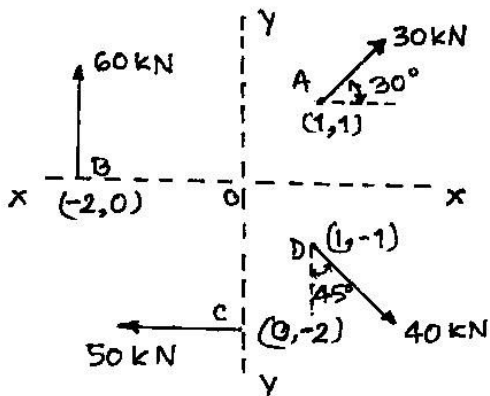

FIG 3. Q 2 (a)
- Q.2** (a) Find magnitude, direction and location of resultant of force system with respect to point 'O' shown in **fig. 3**. **07**